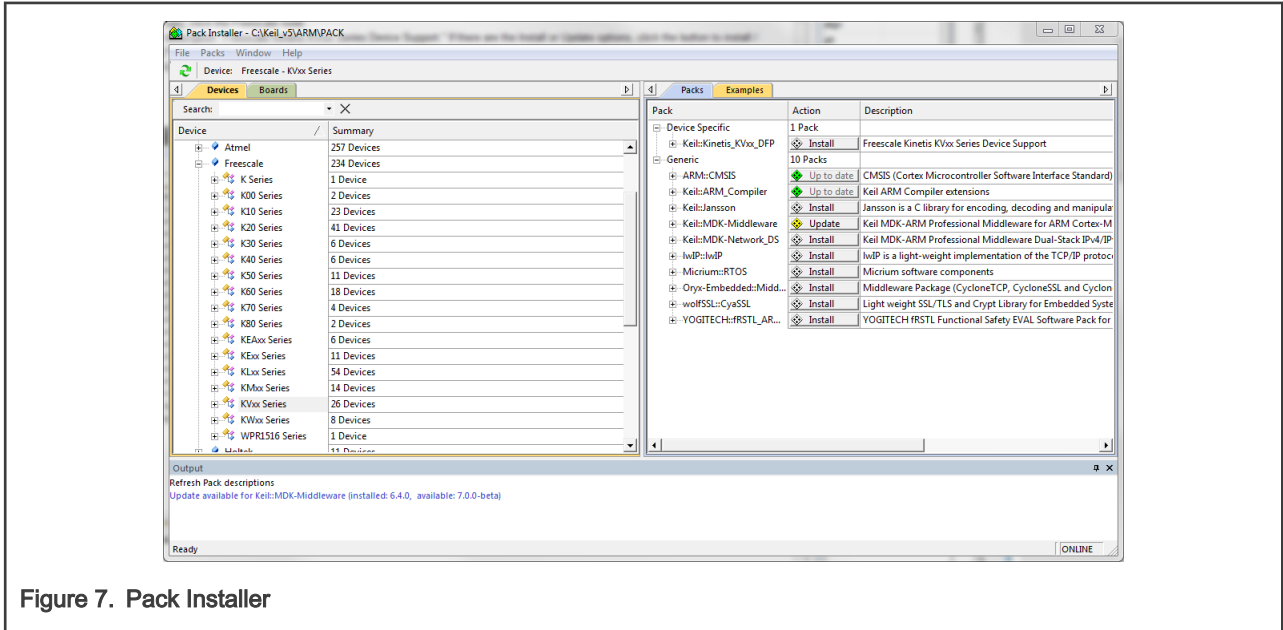

Figure 7. Pack Installer
6. Look for a node called "Keil::Kinetis_KVxx_DFP." If there are the Install or Update options, click the button to install/ update the package. See Figure 7.